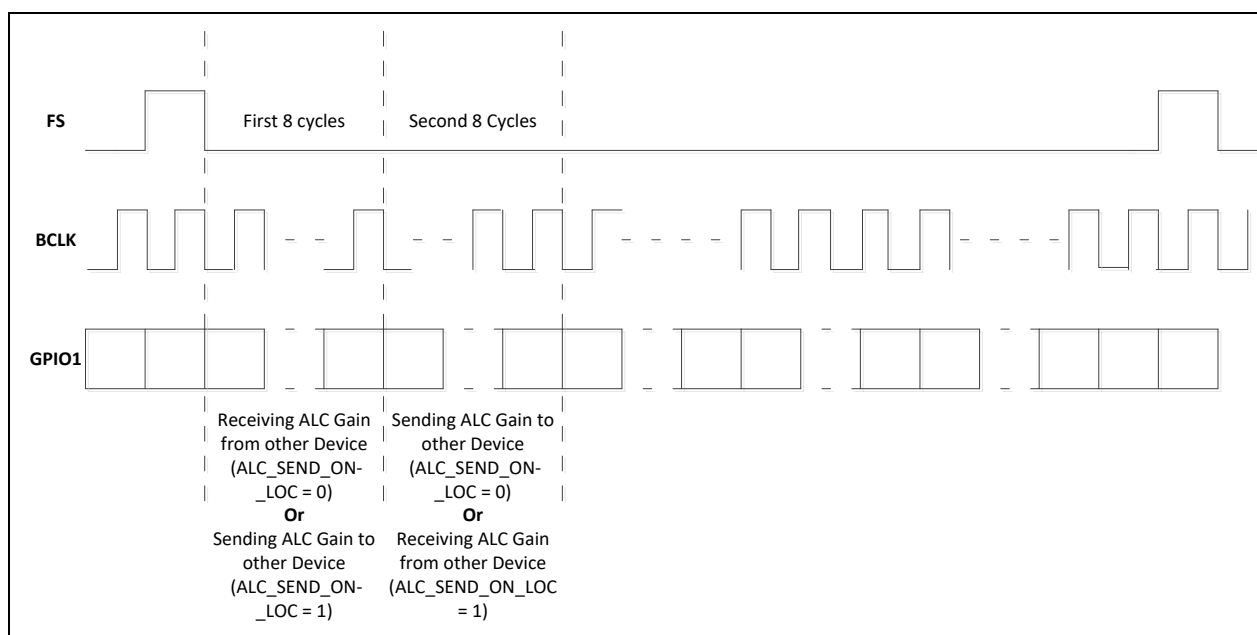

**Figure 34** PCM Time Offset Audio Data
Normally, the DAC and ADC data are clocked immediately after the Frame Sync (FS). In this mode, audio data are delayed by a delay count specified in the device control registers. The Channel 0 MSB is clocked on the BCLK rising edge defined by the delay count set in [LEFT\\_TIME\\_SLOT\\_TSL0T\\_L0\\_REG0XF\[9:0\]](#). The subsequent channel's MSB is clocked on the next BCLK after the LSB of the previous channel. This can be seen in **Figure 34**.